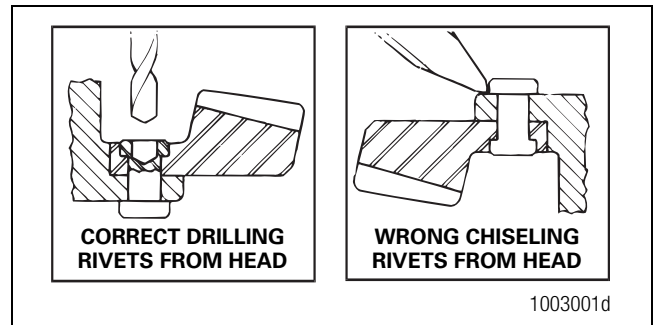

Figure 3.18
- A. Carefully center punch each rivet head in the center, on the ring gear side of the assembly. Do not use a chisel and hammer. Figure 3.18.
- B. Drill each rivet head on the ring gear side of the assembly to a depth equal to the thickness of one rivet head. Use a drill bit that is 0.03125-inch (0.79375 mm) smaller than the body diameter of the rivets. Figure 3.18.